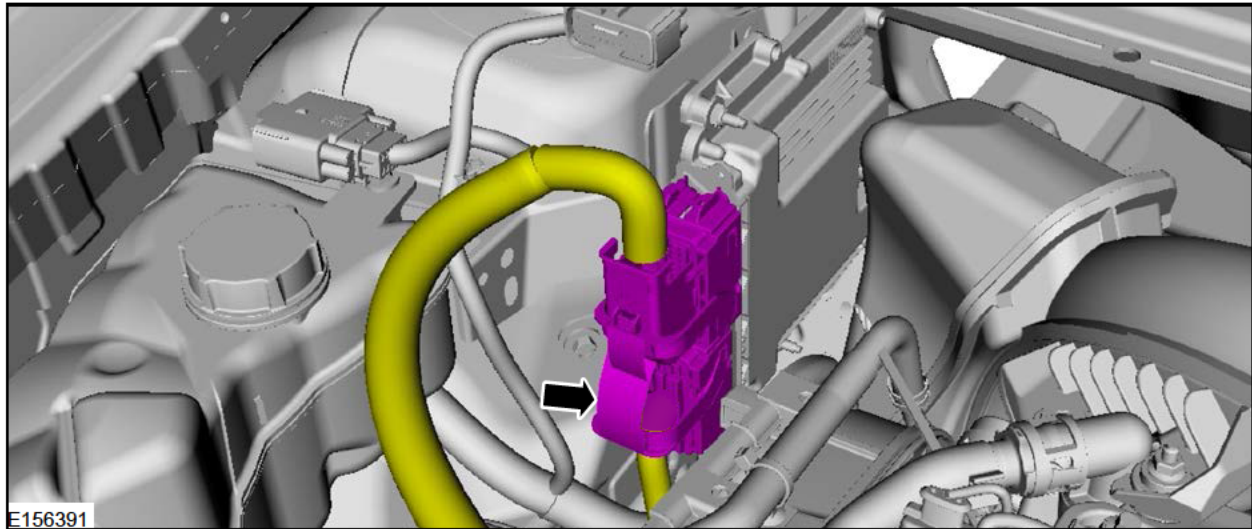

FIGURE C1
2. Disconnect the lower PCM electrical connector. See Figure C1.
4. Connect the lower PCM electrical connector. See Figure C1.